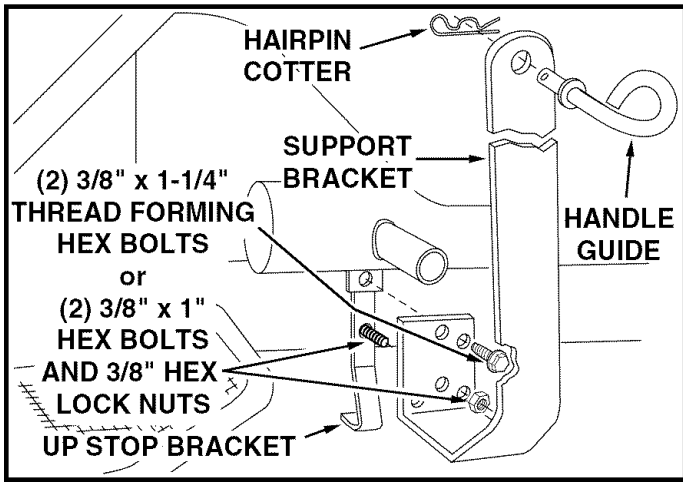

FIGURE 22
22. Align two front holes in Support Bracket with holes in front of foot rest on right side of tractor frame. Remove any bolts present in holes, but leave all brackets in place. Attach the Support Bracket using two 3/8" x 1" hex bolts and 3/8" lock nuts. If bolts won't fit, use 3/8" x 1-1/4" thread forming bolts without the lock nuts. See figure 22.
23. Assemble handle guide (with loop outside) at top of support bracket and secure with one hairpin cotter inside. See figures 22 and 23.